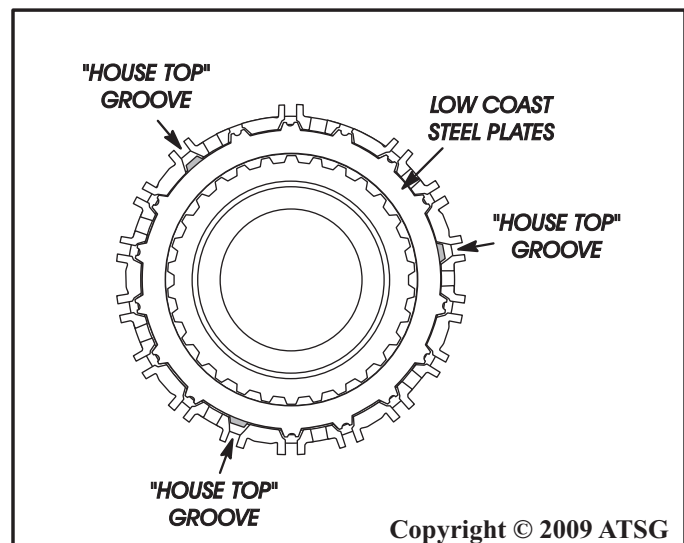

Figure 187
**Note:** *The low coast steel plates have a small "V" notch in the center of each lug, and one lug eliminated every 120 degrees, as shown in Figure 187.*
5. The steel plates **must** be installed with missing lug lined up with "house top" grooves in the forward clutch piston, as shown in Figure 187.